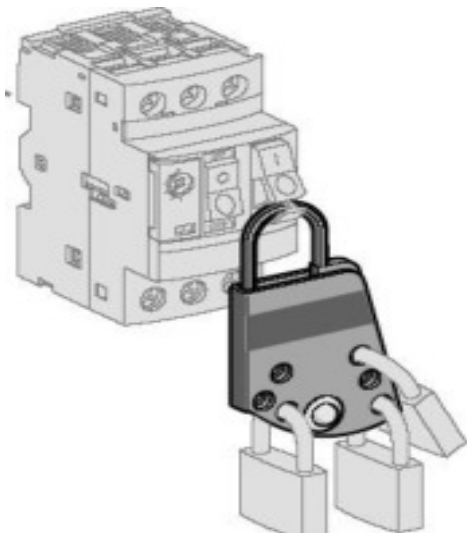

Figure 9.
- b. Open the electrical cabinet and turn OFF the manual motor starter labeled 2 O/L and lock it in the off position by means of a padlock (Fig 9).